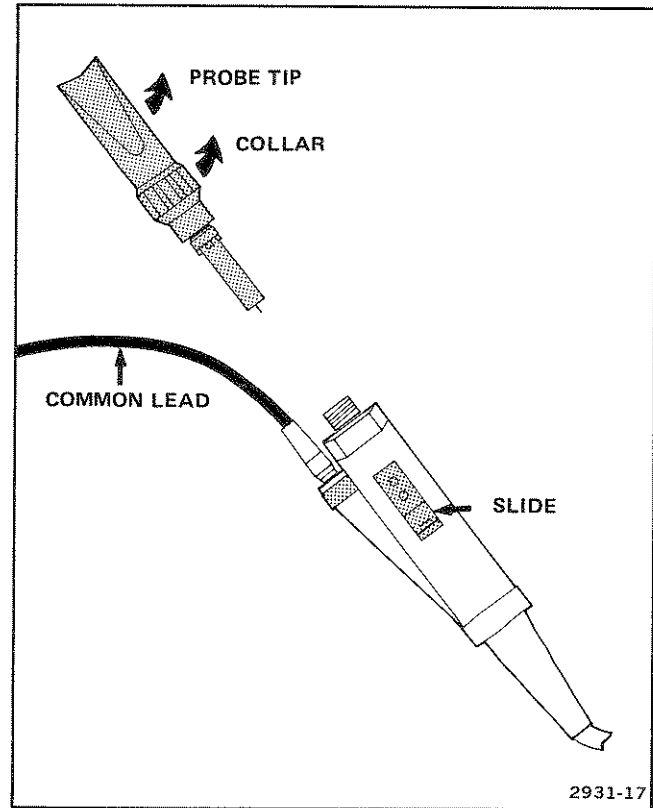

Figure 3-4. Replacing the 1500-V probe tip.
To replace the 1500-V Probe tip with a new one, refer to Figure 3-4 and perform the following steps:
2. Retract the slide to the position shown in Figure 3-4. The slide will stay in this position, and the spring inside the probe tip should cause the probe tip to return to its original position. If this does not occur, hold the slide in the retracted position and pull the probe tip away from the probe body until it reaches its original position.